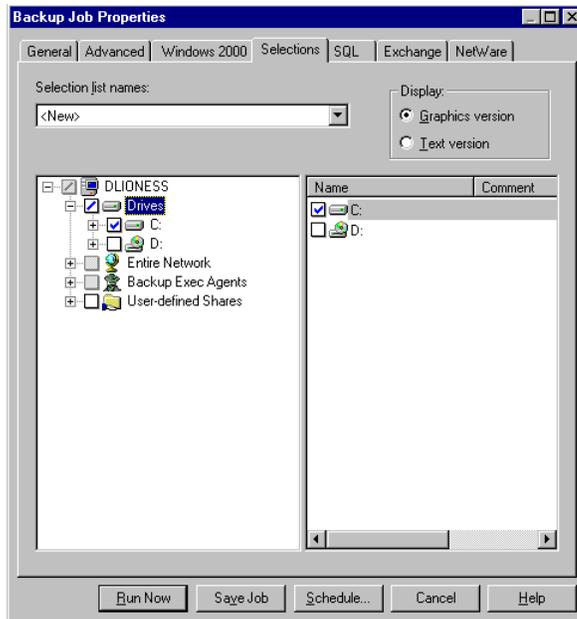

Figure 7: Backup Job Properties dialog
1. Begin a backup job. Select the hard drive to back up, as shown in Figure 7.